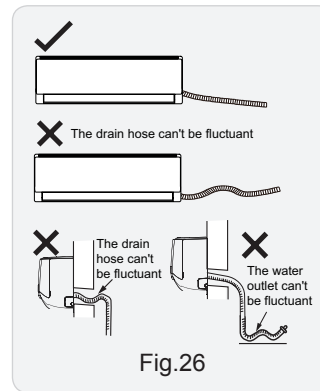

Fig.26
(2) Slant the drain hose slightly downwards. The drain hose cant be curved, raised and fluctuant, etc.(As show in Fig.26)